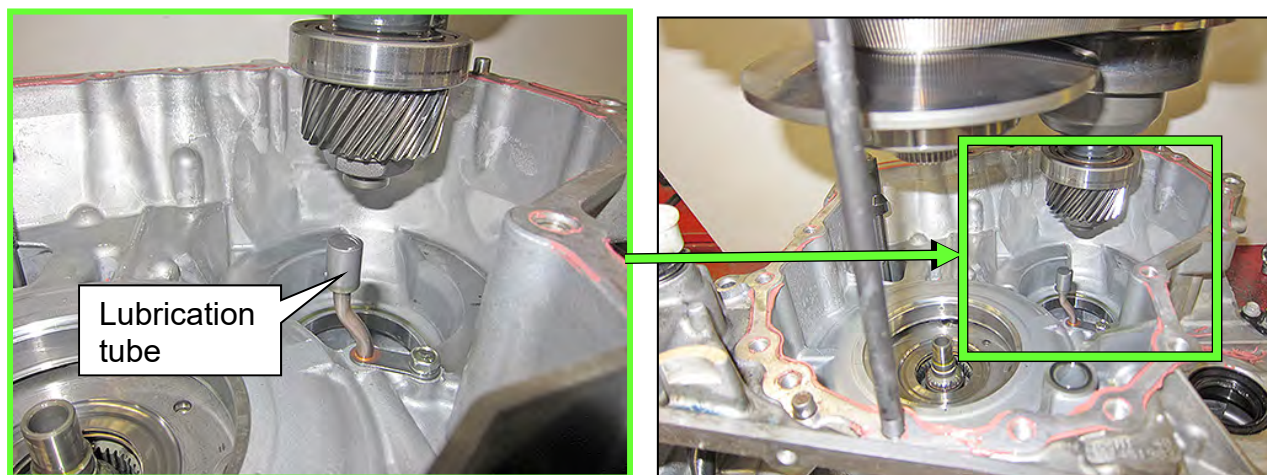

Figure 91
**IMPORTANT:** Do NOT allow the output gear to contact the lubrication tube when the side cover is positioned over the guide pins (Figure 91).